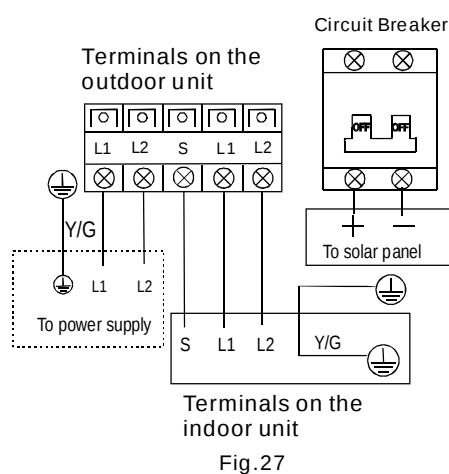

Fig.27
5. Connecting cable between indoor unit and outdoor unit shall be approved polychloroprene sheathed flexible cord, type designation H07RN-F or heavier cord. Ensure the colour of wires of outdoor unit and the terminal Nos. are the same to the indoor's respectively, Fig.27.
2. Connect the connective cables to the terminals as identified with their respective matched numbers on the terminal block of indoor and outdoor units, Fig.27.